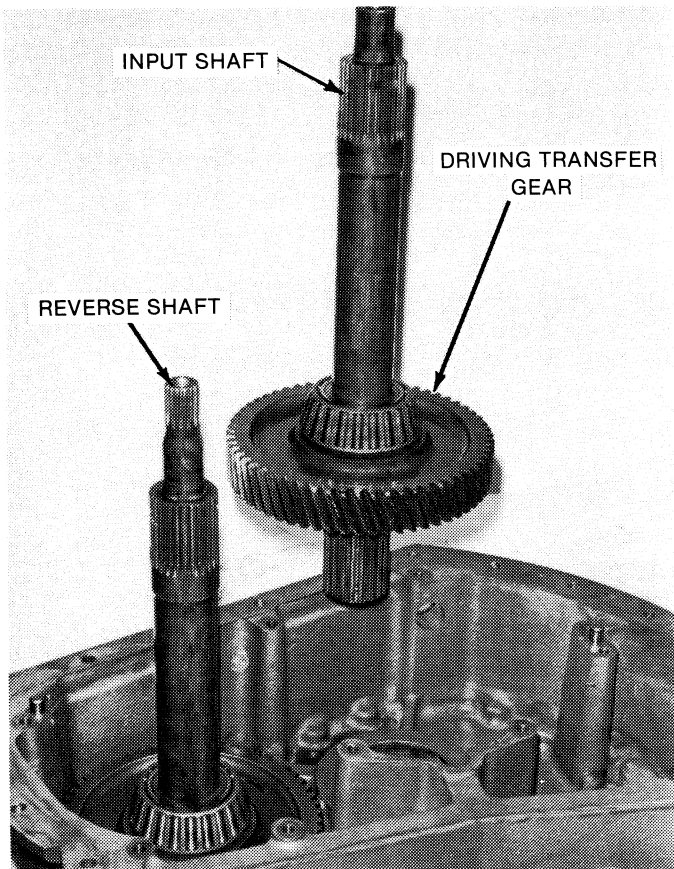

Figure 6-33. Input Shaft and Driving Transfer Gear Removed.
13. Remove the input shaft and driving transfer gear. See Figure 6-33.